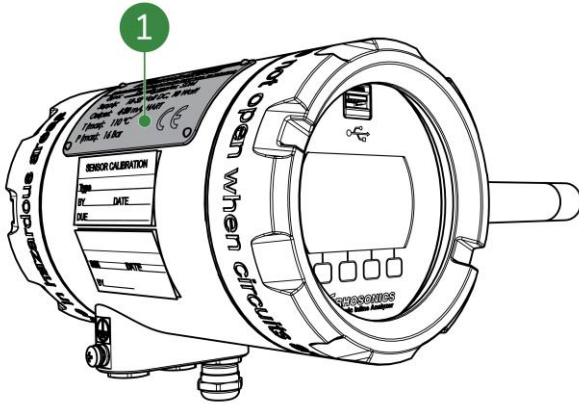

Figure 1-1: Identification plate
The identification plate contains information about the SDM. When contacting Rhosonics, please state the information supplied on the identification plate. The identification plate is mounted on the side or on the bottom of the SDM, see Figure 1-1, pos. 1.